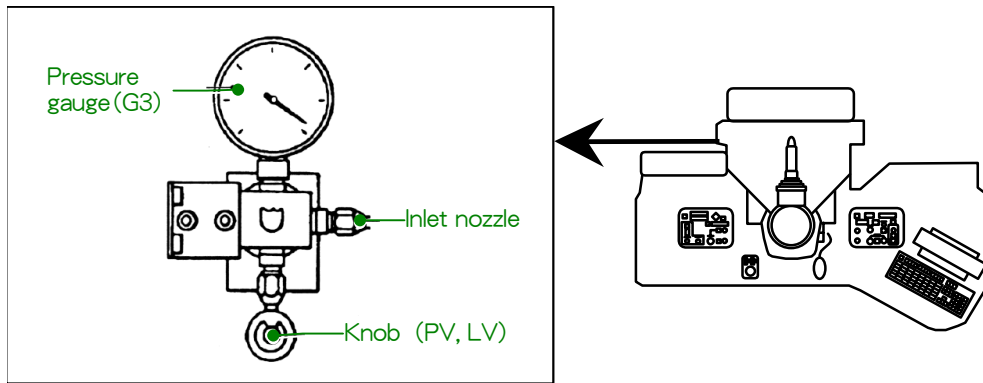
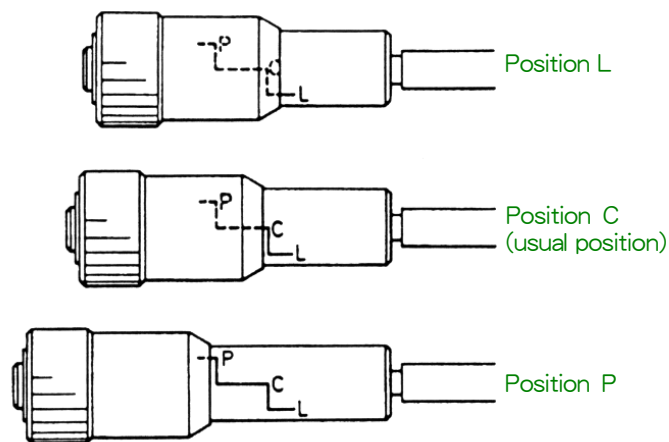

Fig. 6.17 SF₆ gas controller
Fig. 6.19 Gas control knob settings
Replenish the electron gun gas chamber with SF₆ gas when the pressure gauge for electron gun (Fig. 6.17) decreases to 0.3 MPa or less.
3. Set the knob to the L position (Fig. 6.19). The gas in the chamber is released.
4. Connect the SF₆ gas cylinder to the gas inlet nozzle (Fig. 6.17) with a hose.
5. Set the knob to the P position (Fig. 6.19), and turn on the Gas Chamber Pump switch.
6. Wait until the pressure gauge (Fig. 6.17) reading reaches 0.1 MPa (760 mmHg). Wait 10 minutes more and set the knob to the C position (Fig. 6.19); then turn off the GAS CHABR PUMP switch.